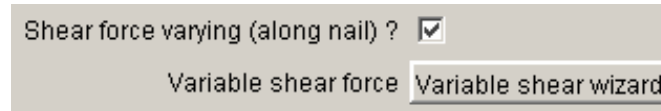
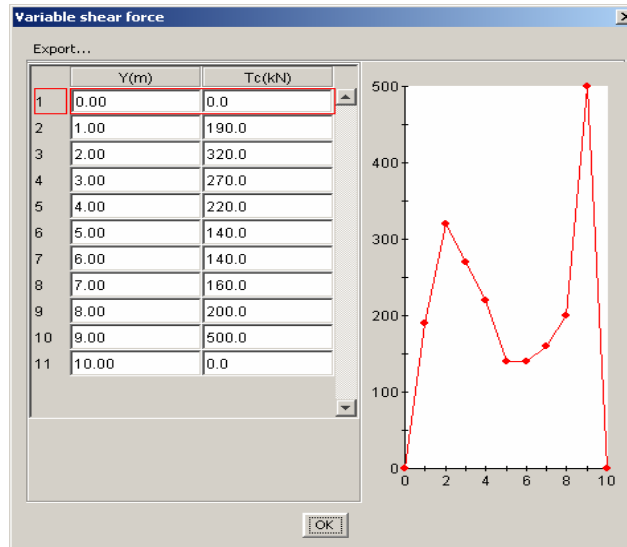

Figure 44: reinforcement dialogue box: tab 1 (nails) when checkbox "Shear force varying..." is activated
Figure 47: reinforcement dialogue box: tab 1 (nails), definition of variable shear force
- *Variable shear wizard* (if checkbox "Shear force varying (along nail)" is activated, Figure 44). In this case, refer to the end of this chapter for the definition of the variable shear force;
If calculation mode is (T_{cal}, C_{imp}), and the checkbox "Shear force varying (along nail)" is activated, the button "Variable shear wizard" is displayed (Figure 44). When selecting it, a new dialogue box is opened (Figure 47):